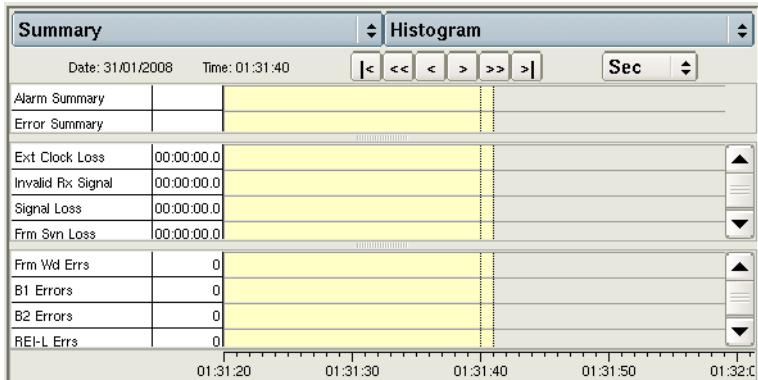

Figure 22 Histogram display (Single result window)
- To change the histogram interval, select the interval drop down (illustrated as “Sec” in Figure 22), and then select the new interval (Min, Hour, or Day).